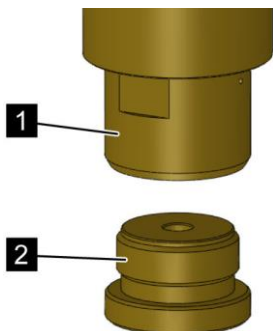

Fig. 175: Resetting the release pin
2. ➤ Deactivate the electrical release device if necessary. To do this, screw the screw reset tool (Fig. 175/2) into the electrical release device (Fig. 175/1) by hand until the stop.